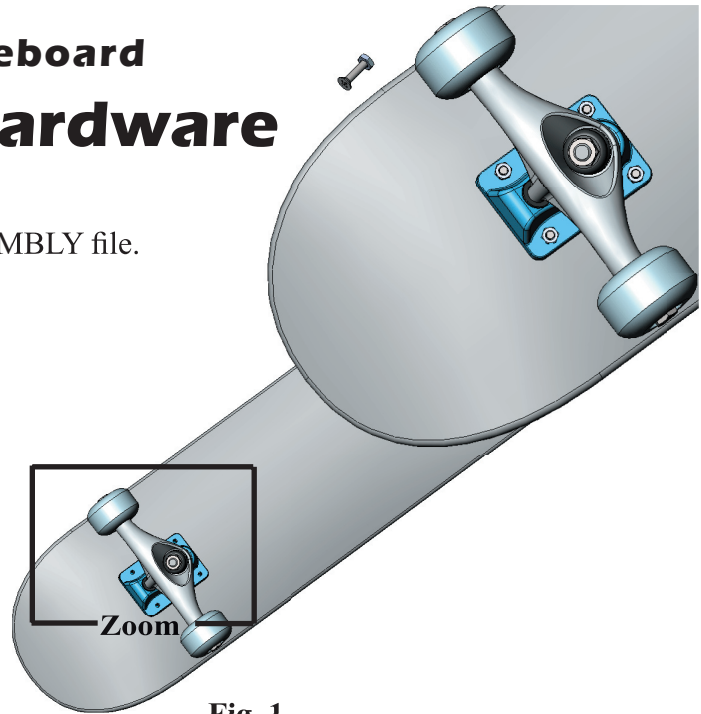

Fig. 1
Step 2. Rotate view to view **underside of deck and the four bolt holes a base-plate** as shown in **Fig. 1**. Hold down middle mouse button (wheel) and drag.
Step 3. Use the **Zoom to Area**  in the View toolbar to drag a zoom window around a **truck assembly**, **Fig. 1**.